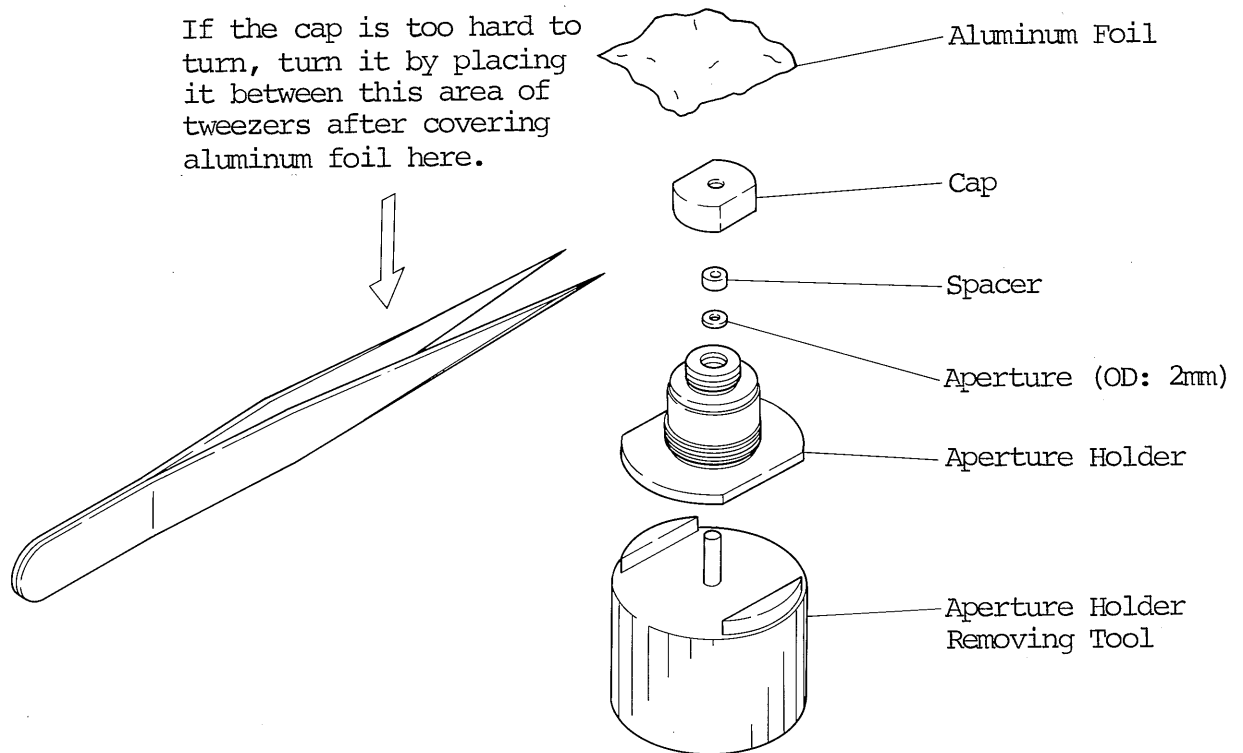

Fig. 6.5-3 Disassembling Objective Lens Fixed Aperture
4. Turn the cap counterclockwise and take out both the spacer and aperture carefully (Fig. 6.5-3).